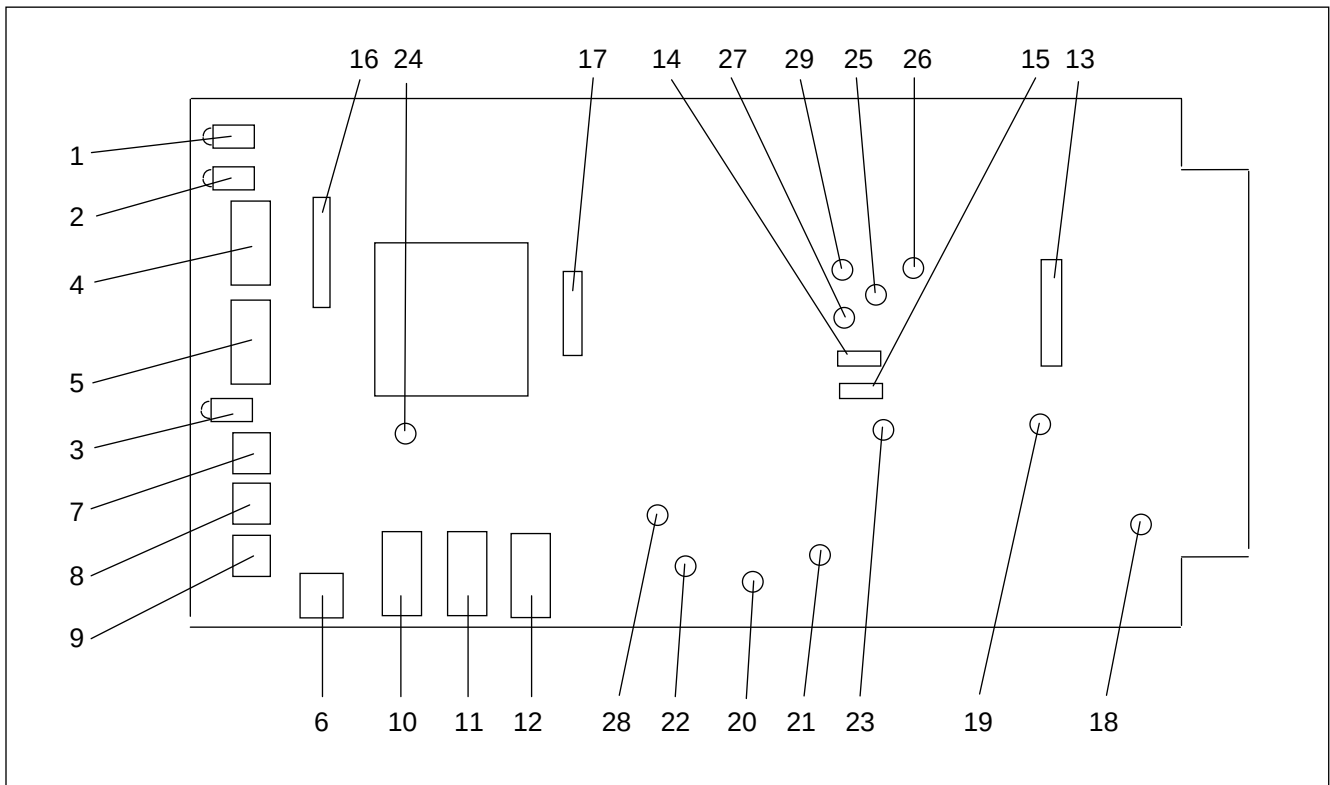

Figure 2. Controls and indicators, RFL VF-8A Selective Calling Unit
5. Refer to Figure 2 and Table 1 for the location and function of DIP switches on the VF-8A.